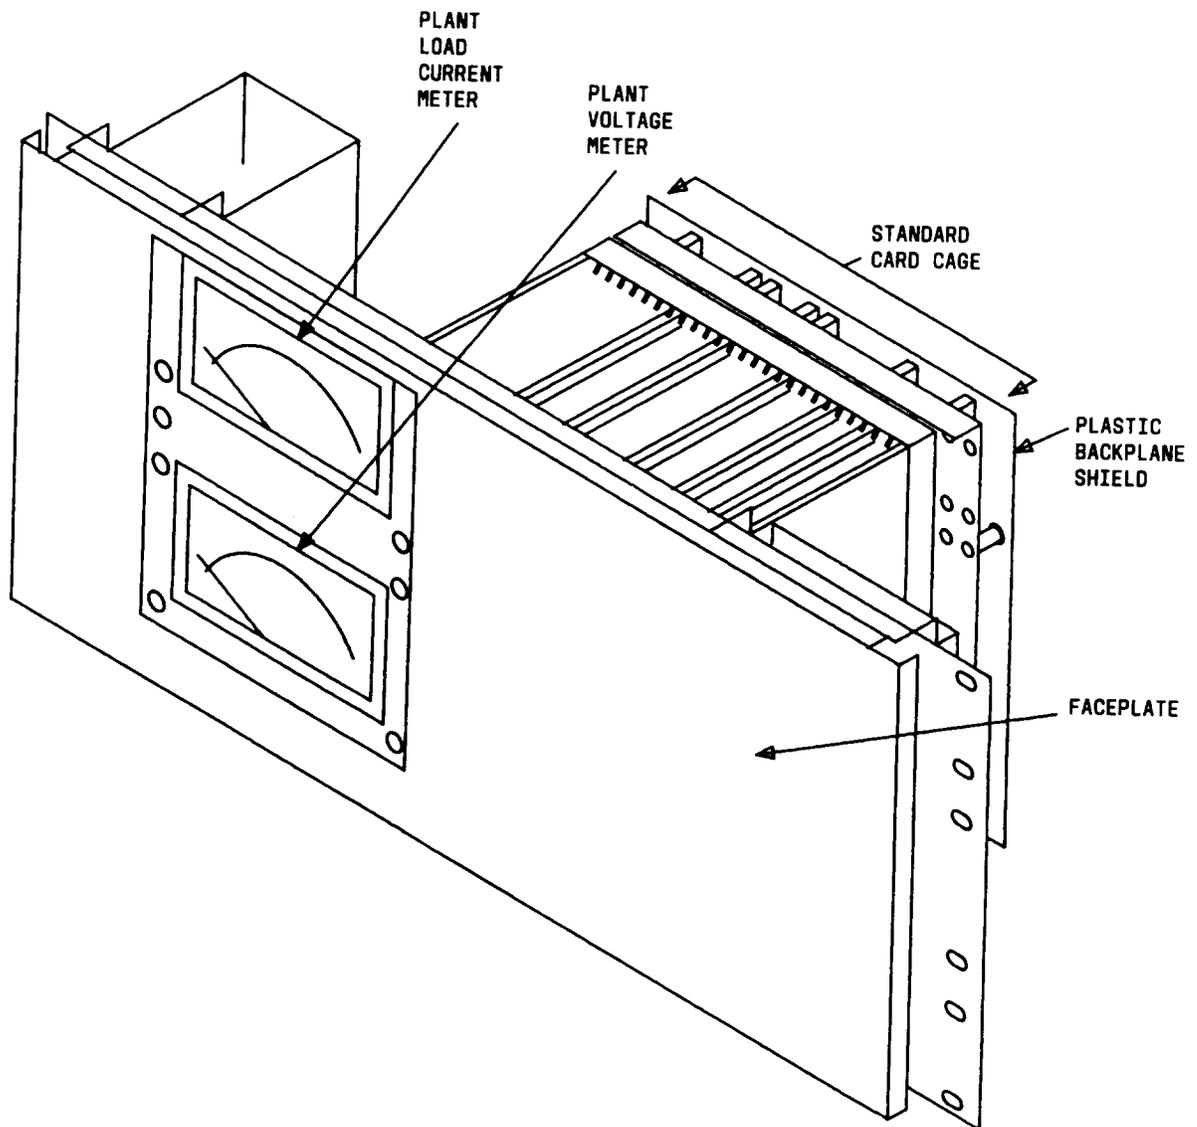
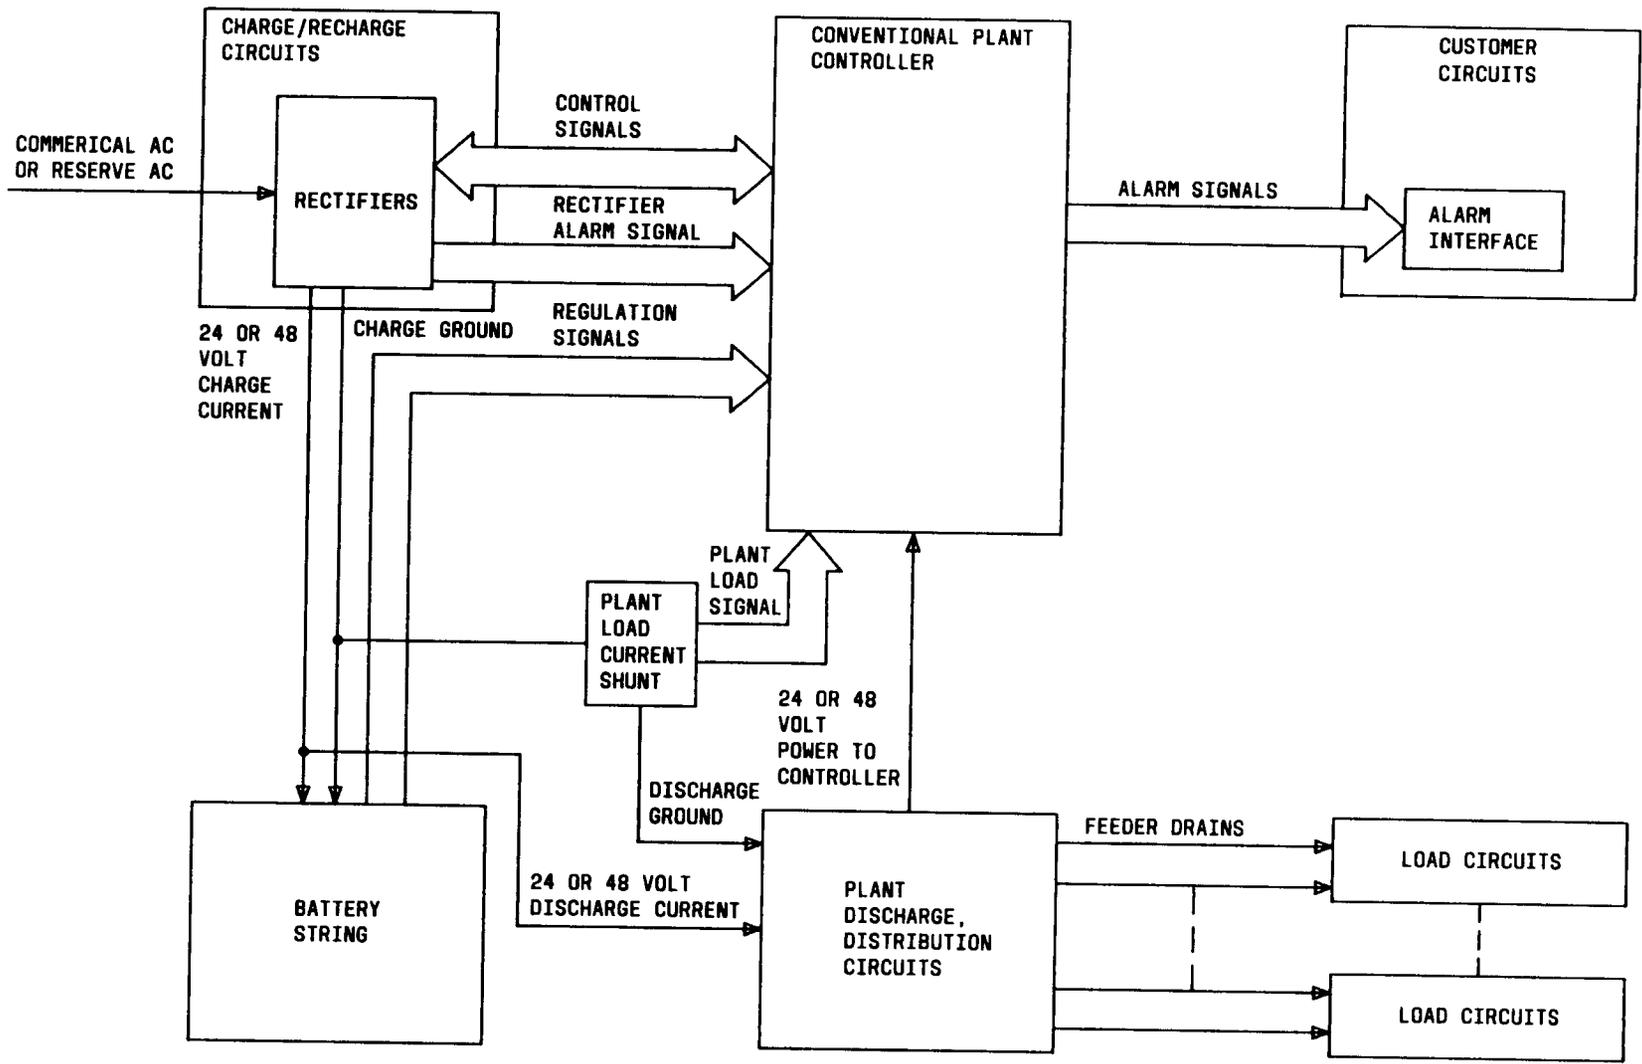

Fig. 3—Conventional Plant Controller
Fig. 8—Conventional Plant Interface Block Diagram
2.03 The power plant controller for the conventional plant (Fig. 3) measures 9 inches high, 26 inches wide, and 12 inches deep. The front panel con-
3.21 **General:** The conventional plant uses a connectorized plant control unit. The plant voltage and current are displayed on analog voltage and current meters on the front panel. (See Fig. 3.) Refer to Fig. 8 for the conventional plant interface block diagram. The conventional plant controller alarm sensing, rectifier shutdown, rectifier restart, and alarm sending circuits are located on either two or three plug-in circuit packs. The one or two ED-83017 rectifier circuit packs (CP11) interface the rectifiers to the ED-83006 auxiliary circuit pack which interfaces to the office alarm, the plant fuse alarm bus,